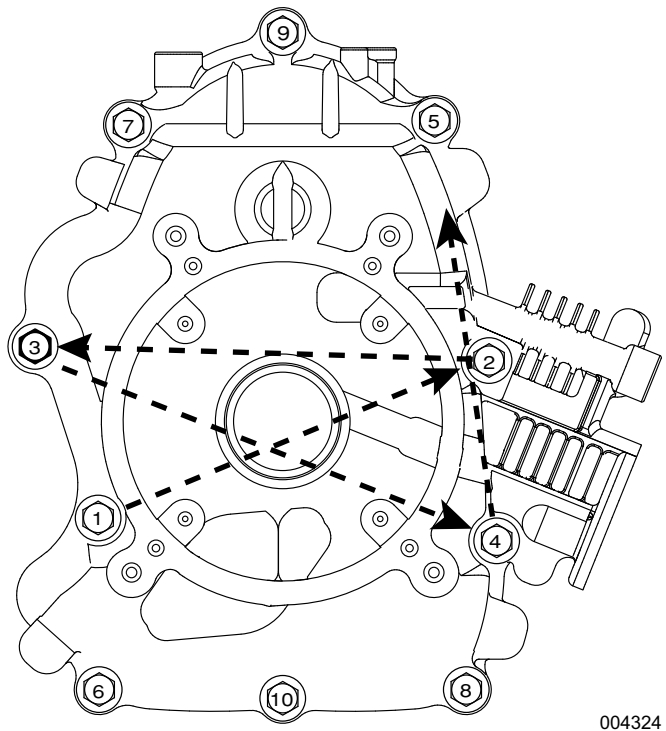

Figure 6-4. Crankcase Bolt Torque Sequence
5. See Figure 6-4. Hand-tighten all crankcase bolts, and then tighten to 35 ft-lb (47.5 Nm), following the proper torque sequence.